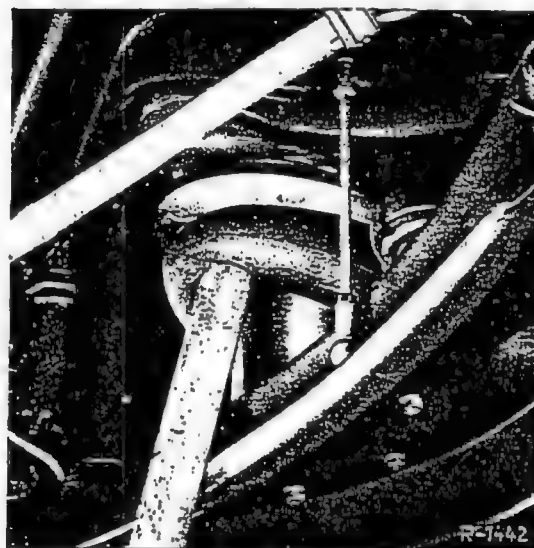

Fig. 32-14/3
5. Detach the bellows from the spring piston by means of a hammer handle (Fig. 32-14/3).